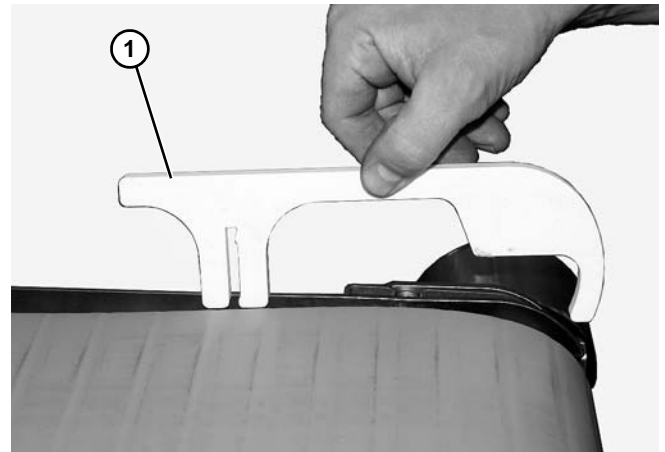

Figure 51
4. Remove drive tail belt guide (**Figure 51, item 1**) from the frame rail. Repeat on opposite side.